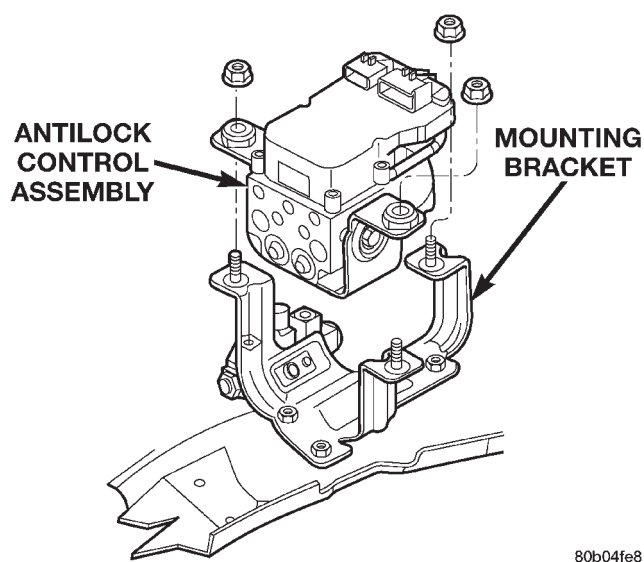

Fig. 7 Mounting Bracket
- (4) Remove the three nuts which attaches the assembly to the mounting bracket (Fig. 7).
- (5) Remove the assembly from the vehicle.
- (6) Remove the two bolts from the HCU assembly mounting bracket and remove the bracket.